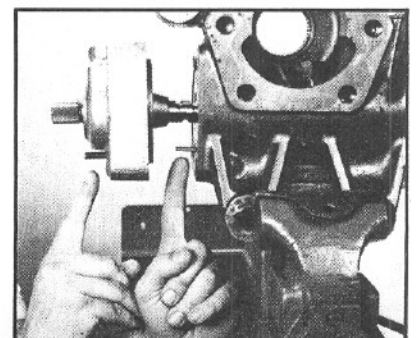

Figure 128
26. Maintain pressure on the valve end of the valve housing to insure continued engagement of the drive lugs and thrust bearing package. While maintaining this pressure, rotate the valve housing to align the poppet adjusting screw (if equipped) with the poppet in the rack piston (FIG. 128).